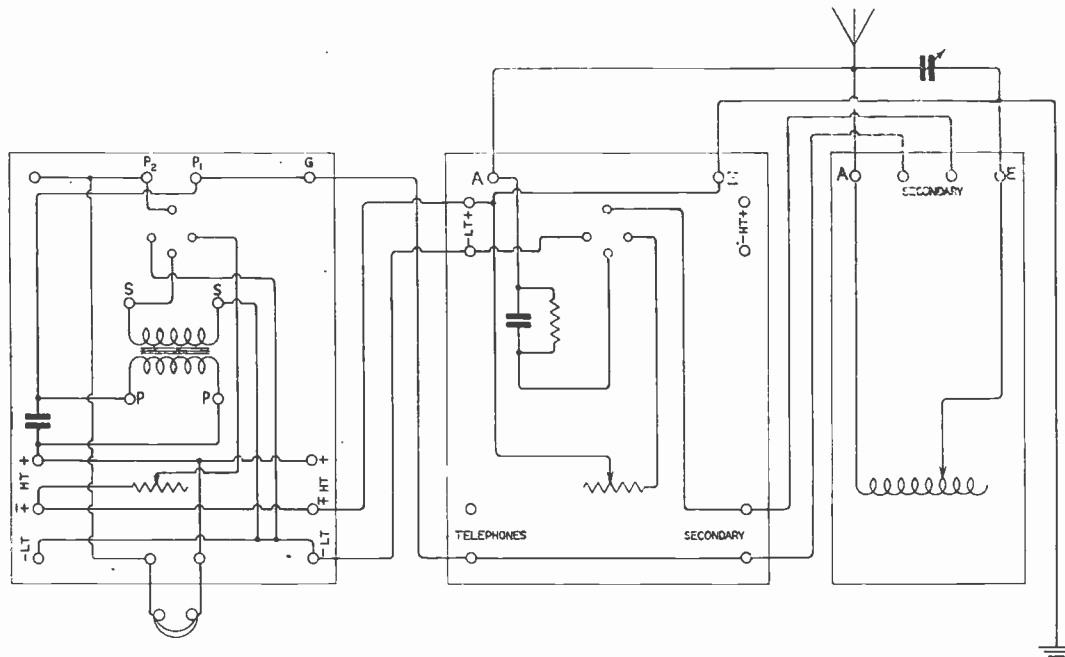

Fig. 2.
(1) See Fig. 2. (2) Yes. (3) You will need the addition of one H.F. valve for reception of PCGG. (4) No information.